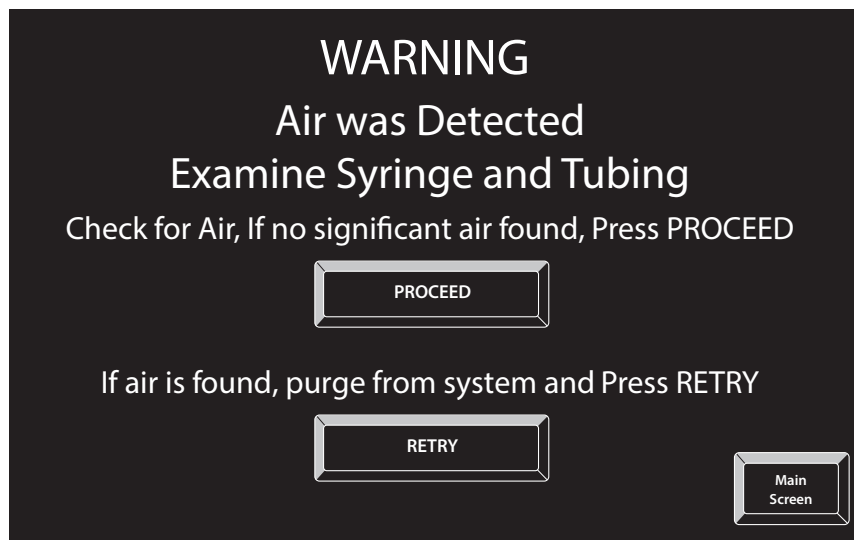

Figure 8-1-5 Detection of Air Message
6. Press the [NO BLOOD] key. The screen shown in Figure 8-1-5 should appear.